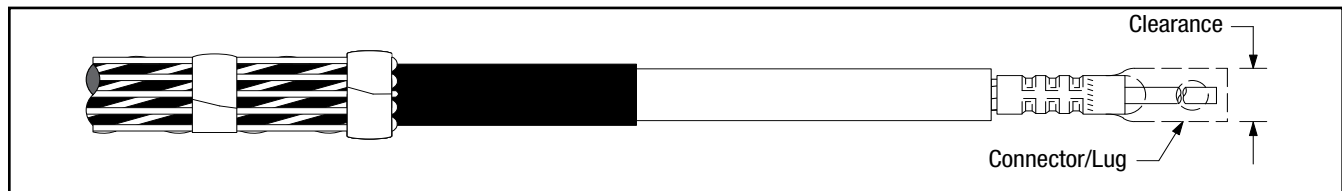

Figure 9
- 7.1 Check to insure 3M Cold Shrink QT-III Silicone Rubber Termination assembly fits over the selected lug or connector BEFORE installing the lug or connector.** If lug or connector (Figure 9) will not fit through the termination core, clean the insulation (per Step 8.0) and slide termination on cable before installing lug or connector. **DO NOT REMOVE CORE AT THIS TIME**